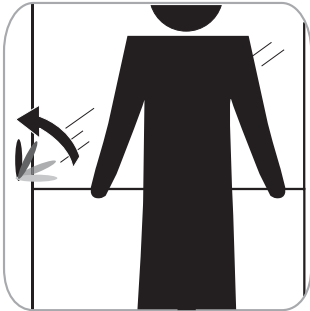

Figure 1
1. Turn Flipaway handle up so it is out of the way (Fig. 1).